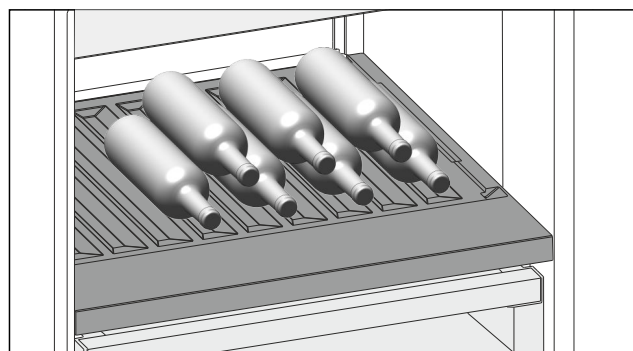

Fig. 158
- Insert the bottles facing backwards towards the rear wall. (see Fig. 158)